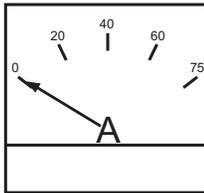

Figure 55. Ammeter (No Load)
12. The ammeter (Figure 55) will indicate zero amps with no load applied. When a load is applied, this meter will indicate the amount of current that the load is drawing from the generator's alternator.